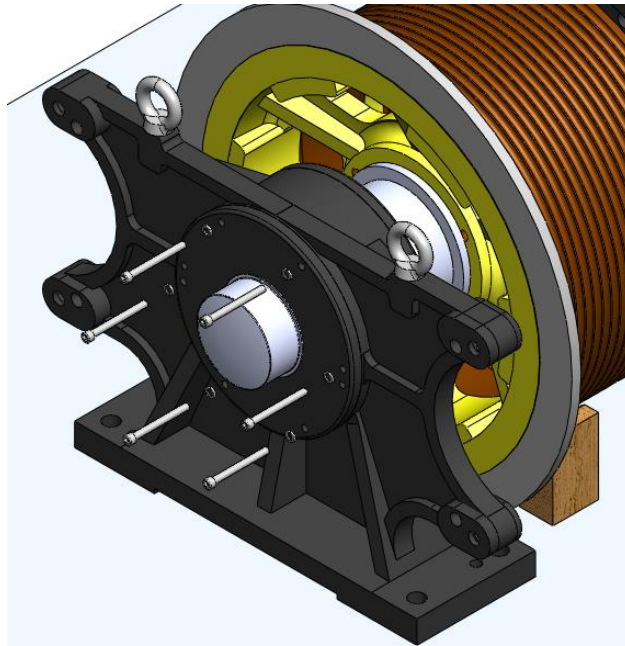

Figure 90: Install Cover 1 on pedestal
10. Install Cover 1 in the pedestal, and then tighten the bolt M12x190 (6 pieces) with lock washer¹² with hex wrench (10mm) See Figure 90.